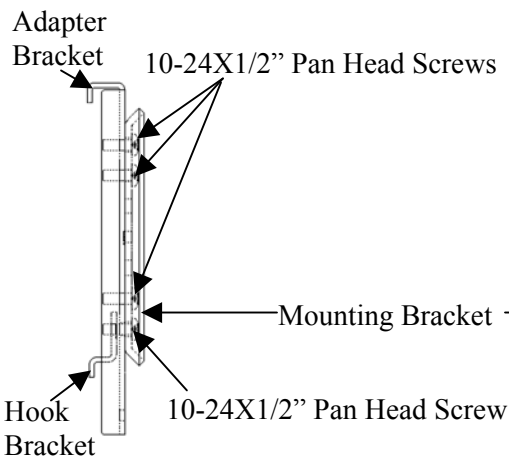

Figure 2
1. Secure the mounting bracket (supplied with your mounting assembly) to the front of the adapter bracket using three 10-24X1/2" pan head screws installed in the top holes (see Figure 2).
2. Secure the hook bracket to the back of the adapter bracket using a 10-24X1/2" pan head screw loosely installed in the bottom hole (see Figure 2).